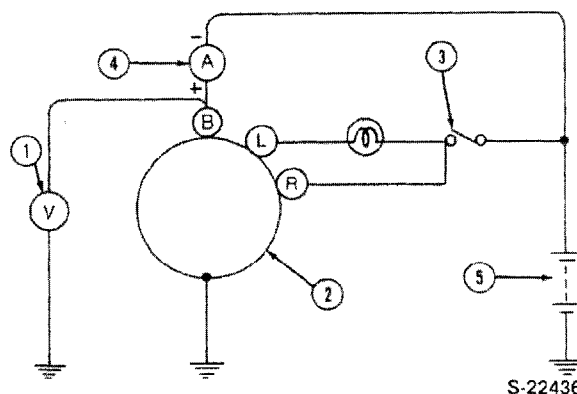

Figure 76
1. After opening the battery switch, disconnect the terminal B of the alternator and connect an ammeter (30A capacity) at the position shown in Figure 76.